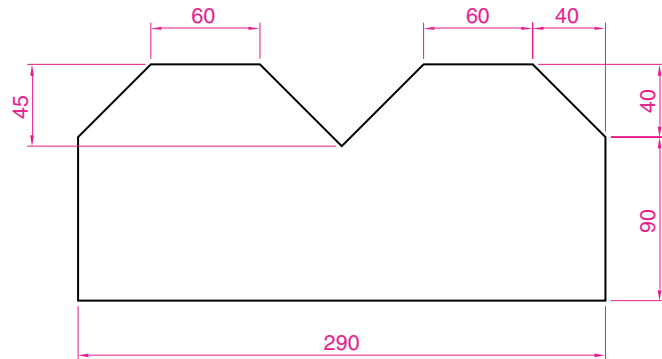

Fig. 6.11 Second example – outline for dimensions
1. Construct the outline in Fig. 6.11 – a pline of width = 1.